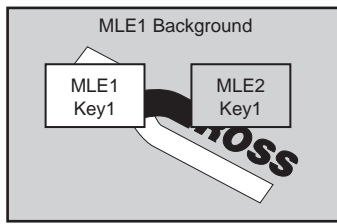

Figure 4.10 MLE 1 Re-entered onto MLE 2
3. Select **MLE 1** as a source on the **Background Bus** of **MLE 2** (**Figure 4.10**). Notice that the output of **MLE 1** is now being used as the background of **MLE 2**.